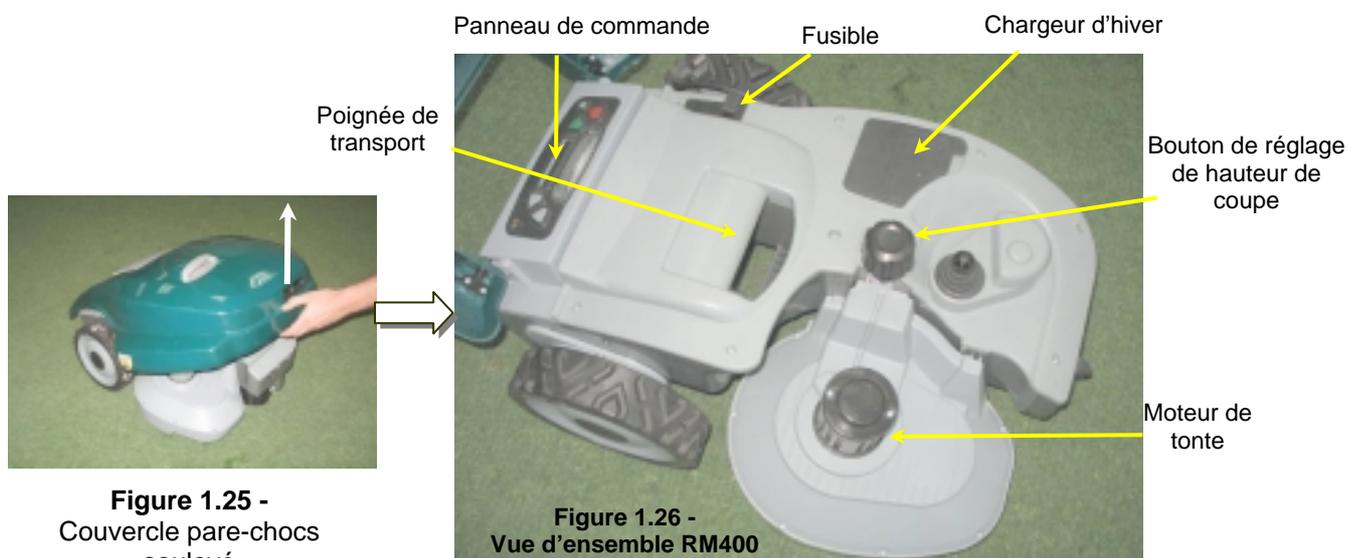

Figure 1.25 -
- Lift the front bumper cover of the Robomow® (Figure 1.25).